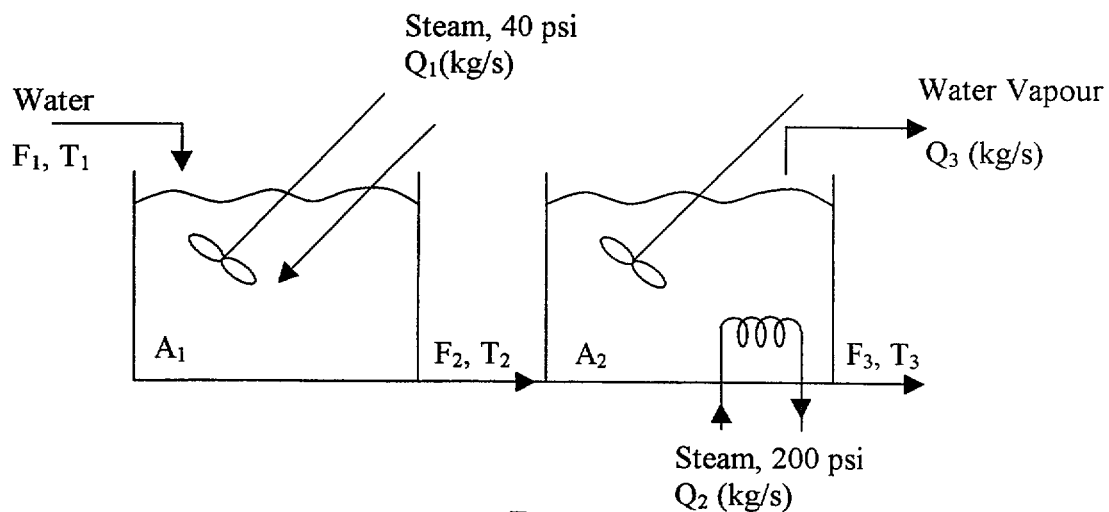

Figure 1
- d) Consider the system shown in figure 1. For tank 1, steam is injected directly into the liquid water. Water vapour is produced in the second tank. The effluent flowrates are proportional to the liquid static pressure that causes their flow. λ_{v1} and λ_{v3} are the heats of condensation at the pressure in the first tank and of vaporisation in the second tank, respectively, and ΔH_{v2} is the heat of condensation in the steam coil.